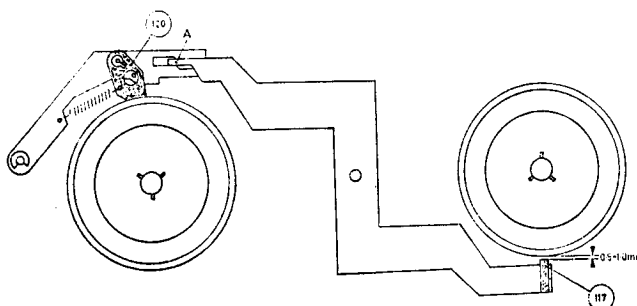

Fig. 13
7. Brakes (See Fig. 13)
Set the recorder to the 'Stop' position. Press the L.H. brake shoe 120 to the left, as in Fig. 13. Bend tag A so that in this position of brake shoe 120, the clearance between R.H. turntable 52 and R.H. brake shoe 117 is 0.5-1.0mm.